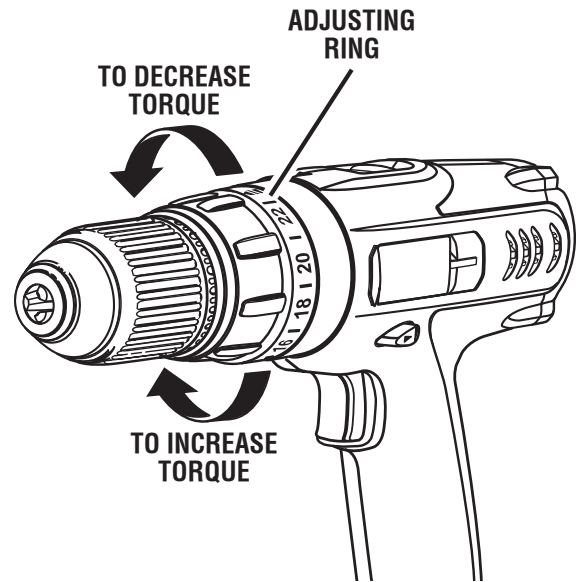

Fig. 11
- Identify the twenty four torque indicator settings located on the front of the drill. See Figure 11.